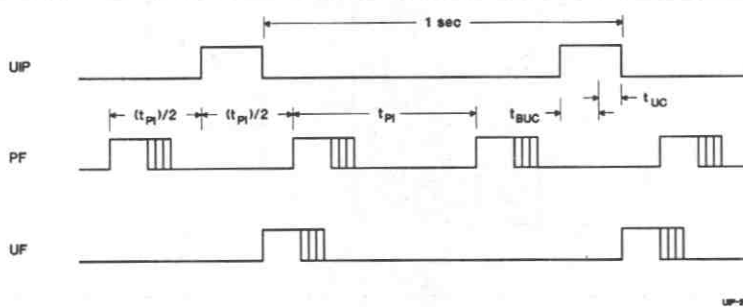

Figure 3. Update-Ended/Periodic Interrupt Relationship
- Enable the update interrupt event to generate interrupt requests at the end of the update cycle. The interrupt handler has a maximum of 999ms to access the clock bytes before the next update cycle begins (see Figure 3).
- Poll the update-in-progress bit (UIP) in register A. If UIP = 0, the polling routine has a minimum of t_{BUC} time to access the clock bytes (see Figure 3).
- Use the periodic interrupt event to generate interrupt requests every t_{PI} time, such that UIP = 1 always occurs between the periodic interrupts. The interrupt handler finishes accessing the clock bytes in $t_{PI}/2 + t_{BUC}$ time (see Figure 3).